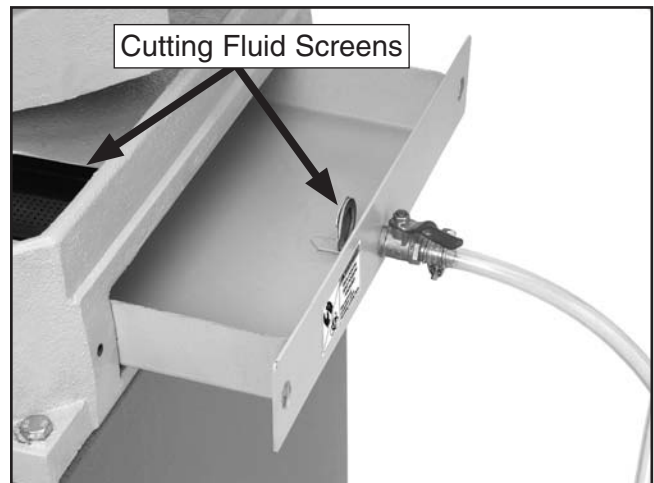

Figure 35. Cutting fluid screens.
4. Clean the cutting fluid screens in the machine base and the tank (**Figure 35**).